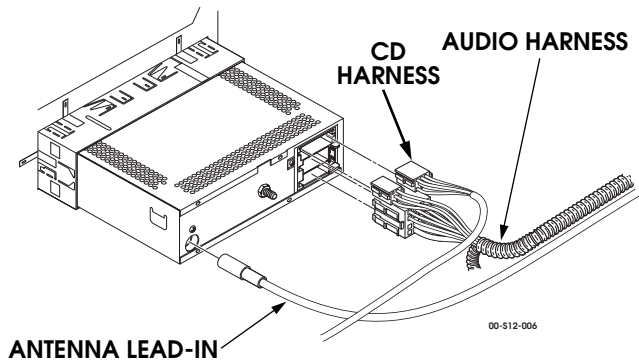

Figure 12-142: Audio Harness Connections.
2. Disconnect radio harness lead from harness connector (Figure 12-142).
7. Connect harness lead to audio harness connector (Figure 12-142).
2. Disconnect harness lead from audio harness connector (Figure 12-142).
2. Disconnect harness lead from radio head (Figure 12-142).